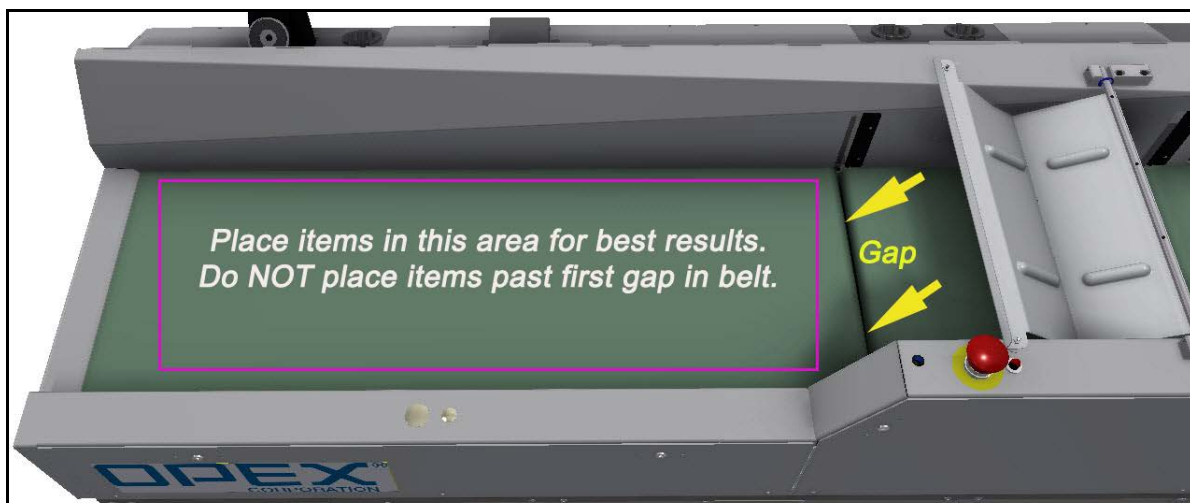

Figure 4-38: Conveyor “Drop Zone”
5. Place the item on the conveyor as shown below (see Figure 4-38).